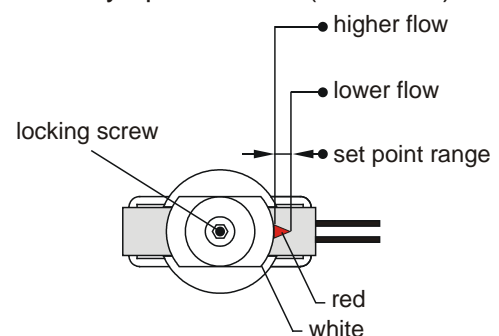
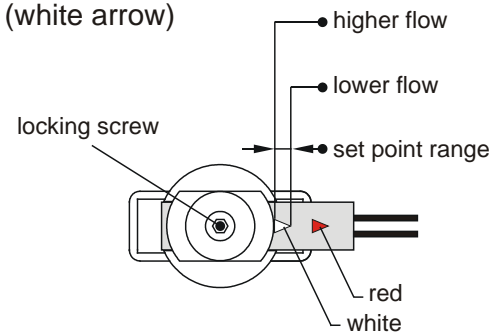

Fig. 18
Fig. 19
- Subsequently loosen the locking screw (2.5 hexagon socket screw for the brass and stainless steel version or recessed head screw for the plastic version) and position the switching unit until the red or white arrow are visible at the entry of the switching contact guide for a desired make contact (→ Fig. 18) or break contact (→ Fig. 19) respectively.